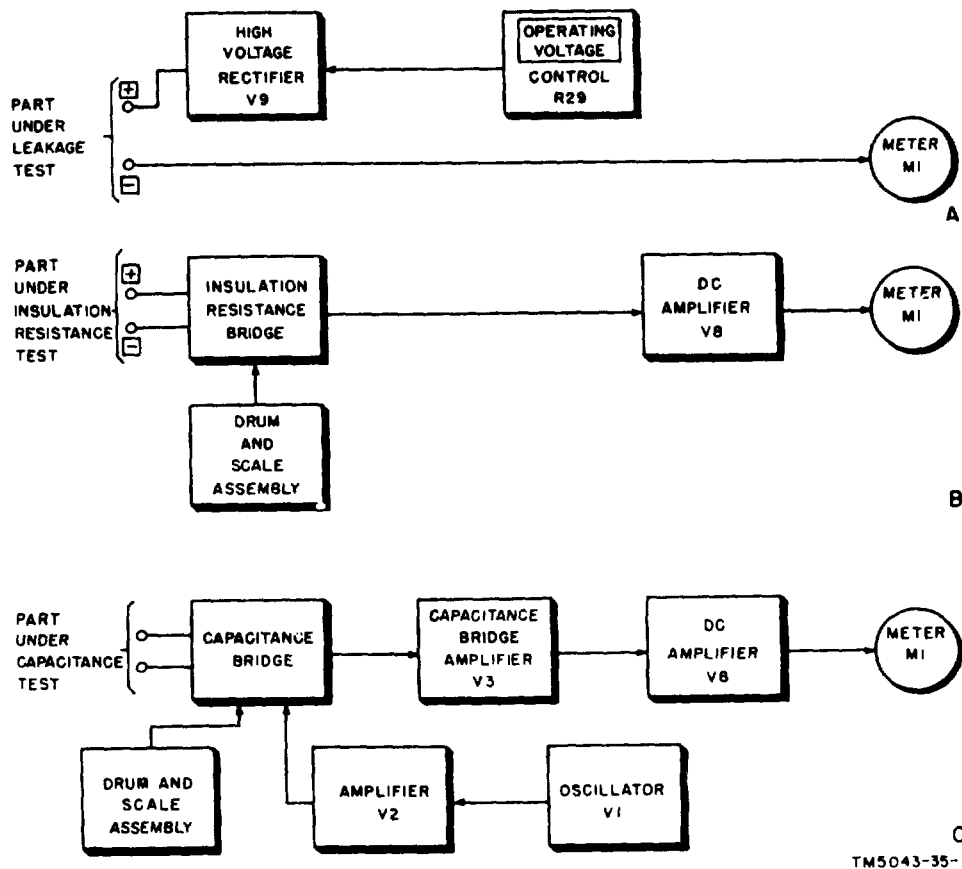

Figure 1. Analyzer ZM-3(\*)/U, block diagram.
a. *Leakage Current Circuit* (A, fig. 1). The electrolytic capacitor to be tested is connected to the leakage terminals. Meter M1, connected in series with the capacitor under test and high voltage rectifier V9, indicates the leakage current of the electrolytic capacitor under test. OPERATING VOLTAGE control R29 is used to adjust the output voltage of high voltage rectifier V9 to the working voltage of the electrolytic capacitor.
b. *Insulation Resistance Circuit* (B, fig. 1). The capacitor to be tested is connected to the insulation
c. *Capacitance Circuit* (C, fig. 1). The capacitor to be measured is connected to the capacitance bridge through the capacitance terminals. Oscillator V1 supplies an alternating current (ac) voltage to the capacitance-bridge through amplifier V2. The output from the capacitance bridge is applied to meter M1 through capacitance bridge amplifier V3 and dc amplifier V8. The capacitance bridge is balanced when the drum and scale assembly is adjusted for a minimum indication on meter M1. The capacitance value can then be read from scale 2, 3, 4, or 5 of the drum and scale assembly.